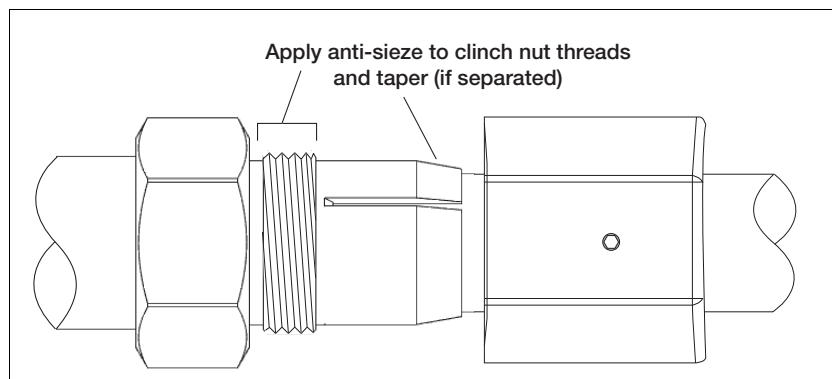

Figure 7. Apply Loctite 8009 to Threads and Tapered Fingers of Clinch Nut
1. Before installing pipe threads apply an adequate amount of fresh, UL classified for DEF, non-setting thread sealant. Loctite 567 sealant is recommended with Loctite 7090 primer for all field serviceable pipe threads. Loctite 8009 is to be used as the DEF compatible antiseize on the clinch nut threads (see Figure 7).